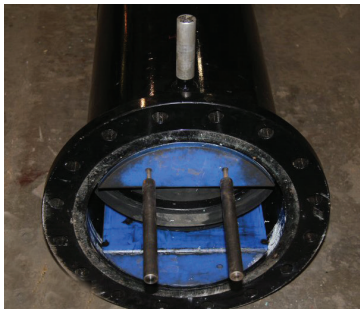

Figure G-10
G.19) Visually check to ensure proper valve cartridge orientation — the gate is to be perpendicular to the alignment port before continuing (see Figure G-10). Remove the gate housing extensions.